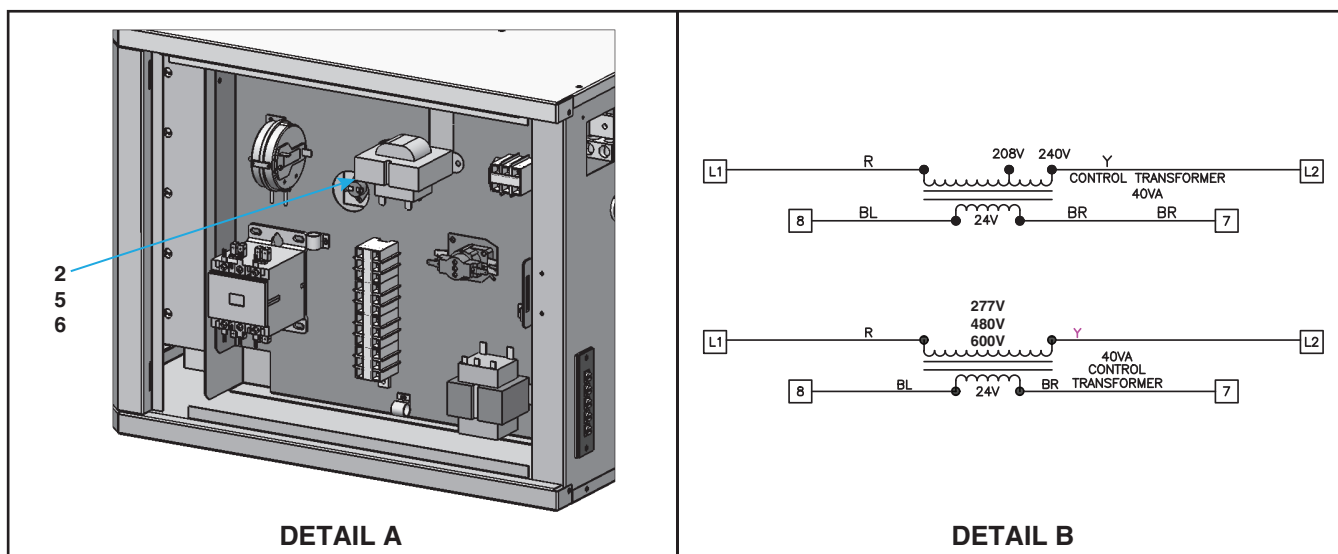

Figure 1. Transformer Location (Typical) and Wiring—Model EUH (Refer to Table 1)
- (1) Remove control compartment access panel.
- (2) Position transformer (5) as shown in Figure 1, DETAIL A and secure transformer using self-tapping screws (2).
- (3) Connect wires for transformer (5) in accordance with Figure 1, DETAIL B.
- (4) Install control compartment access panel